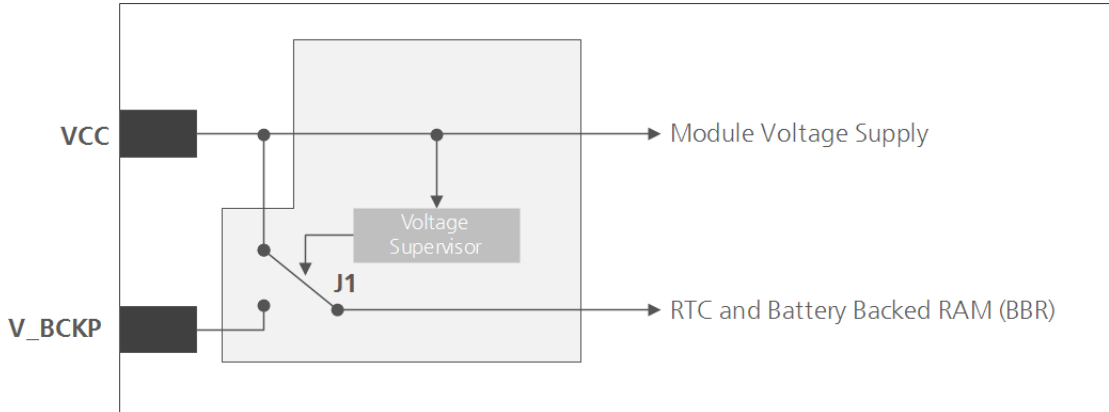

Figure 1: Backup battery and voltage (for exact pin orientation, see the NEO-M8P Data sheet [1])
- ⚠ While power is supplied to the NEO-M8P module through the **VCC** pin, the backup battery is disconnected from the RTC and the BBR to avoid unnecessary battery drain (see Figure 1). In this case, **VCC** supplies power to the RTC and BBR.